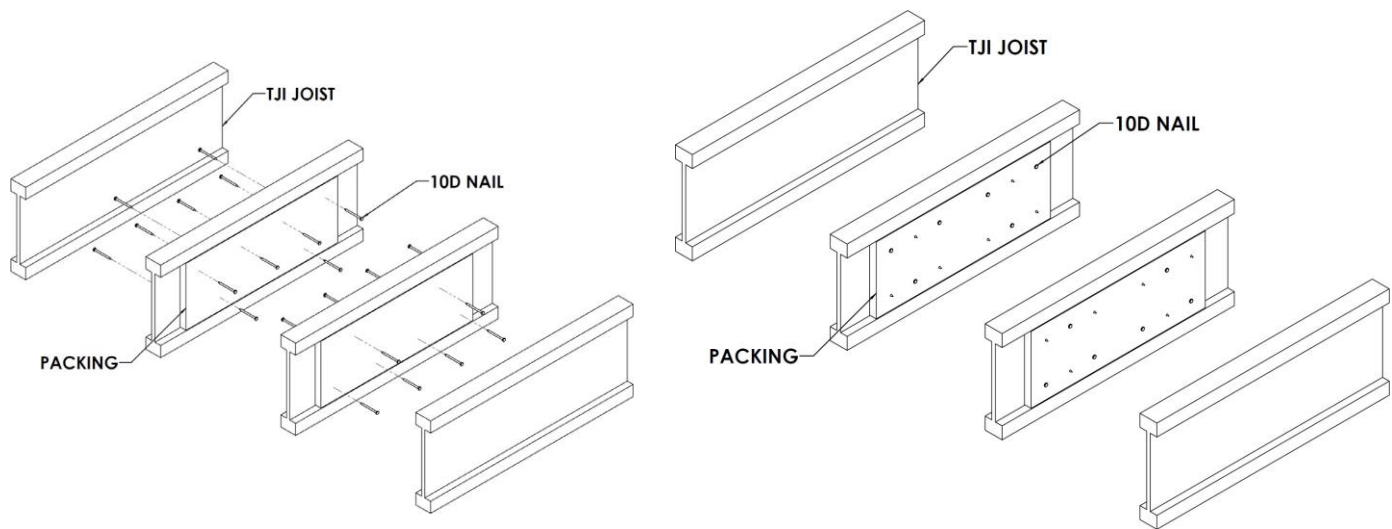

Figure 190: **Nail Placement**
- Evenly space 12 nails on each packing board, alternating both sides of each TJI joist, as shown in Figure 190.